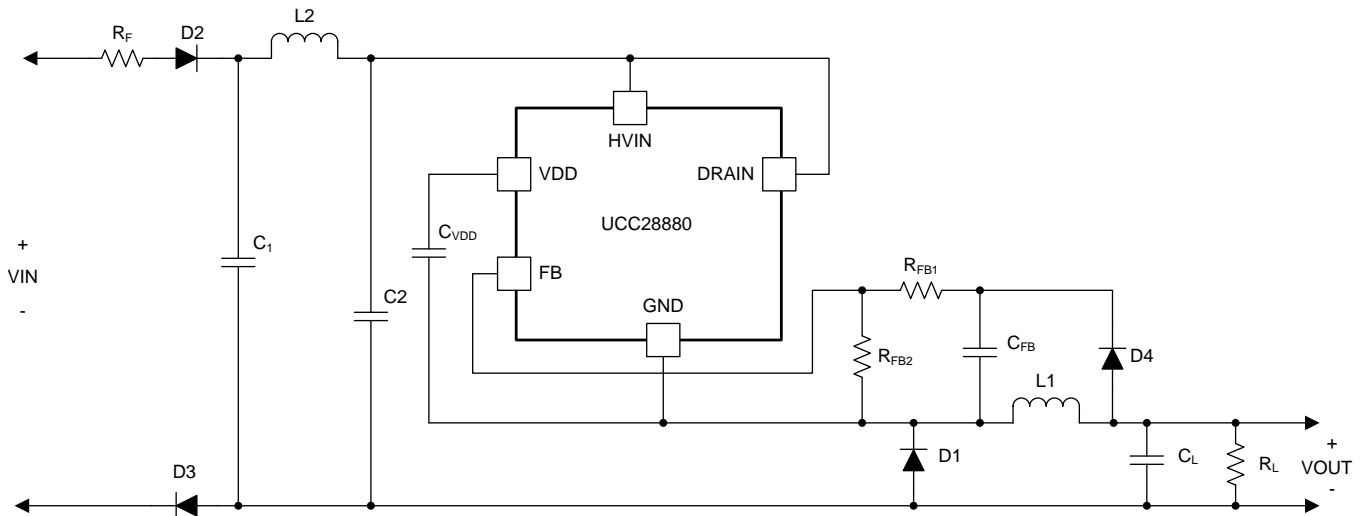

Figure 19. High-Side Buck Converter Schematic
Figure 19 shows a typical application example of a non-isolated power supply, where the UCC28880 is connected in a high-side buck configuration having an output voltage that is positive with respect to the negative high-voltage input (VIN-).
In low-side buck converter the output voltage is always sensed by the FB pin and UCC28880 internal controller can turn on the MOSFET on VOUT. In high-side buck converter applications the information on the output voltage value is stored on C_{FB} capacitor. This information is not updated in real time. The information on C_{FB} capacitor is updated just after MOSFET turn-off event. When the MOSFET is turned off, the inductor current forces the freewheeling diode (D1 in Figure 19) to turn on and the GND pin of UCC28880 goes negative at $-V_{d1}$ (where V_{d1} is the forward drop voltage of diode D1) with respect to the negative terminal of bulk capacitor (C1 in Figure 19). When D1 is on, through diode D4, the C_{FB} capacitor is charged at $V_{OUT} - V_{d4} + V_{d1}$. Set the output voltage regulation level using Equation 18.
- R_{FB1} , R_{FB2} is the resistance of the resistor divider connected with FB pin (see Figure 19)